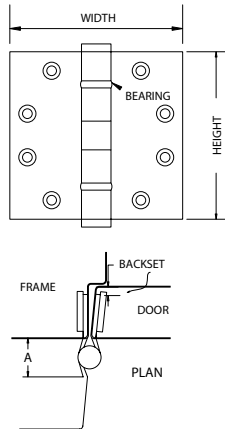

FIGURE 1a
1. The Full Mortise Butt Hinge, Figure 1a, has two equal leaves, one mortised into the door edge and the other mortised into the frame rabbet.